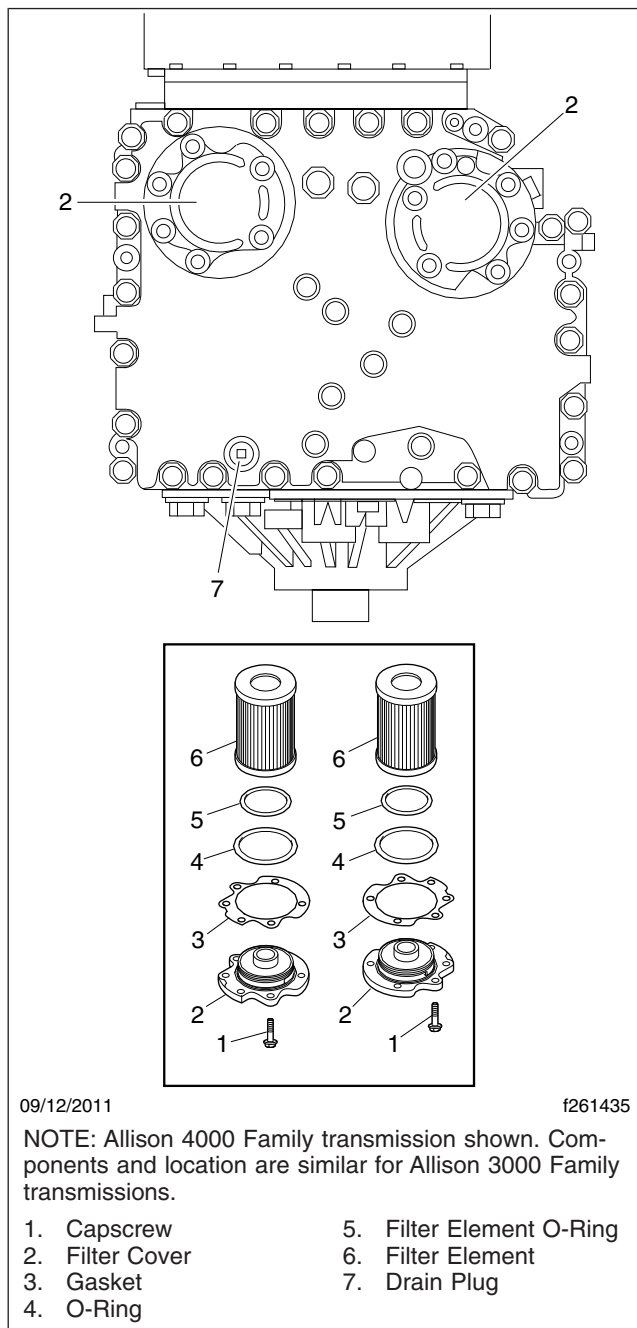

Fig. 9, Allison Transmission Filter Locations and Components
4. Remove the 12 mounting capscrews (six each) from the two filter covers. See **Fig. 9**.